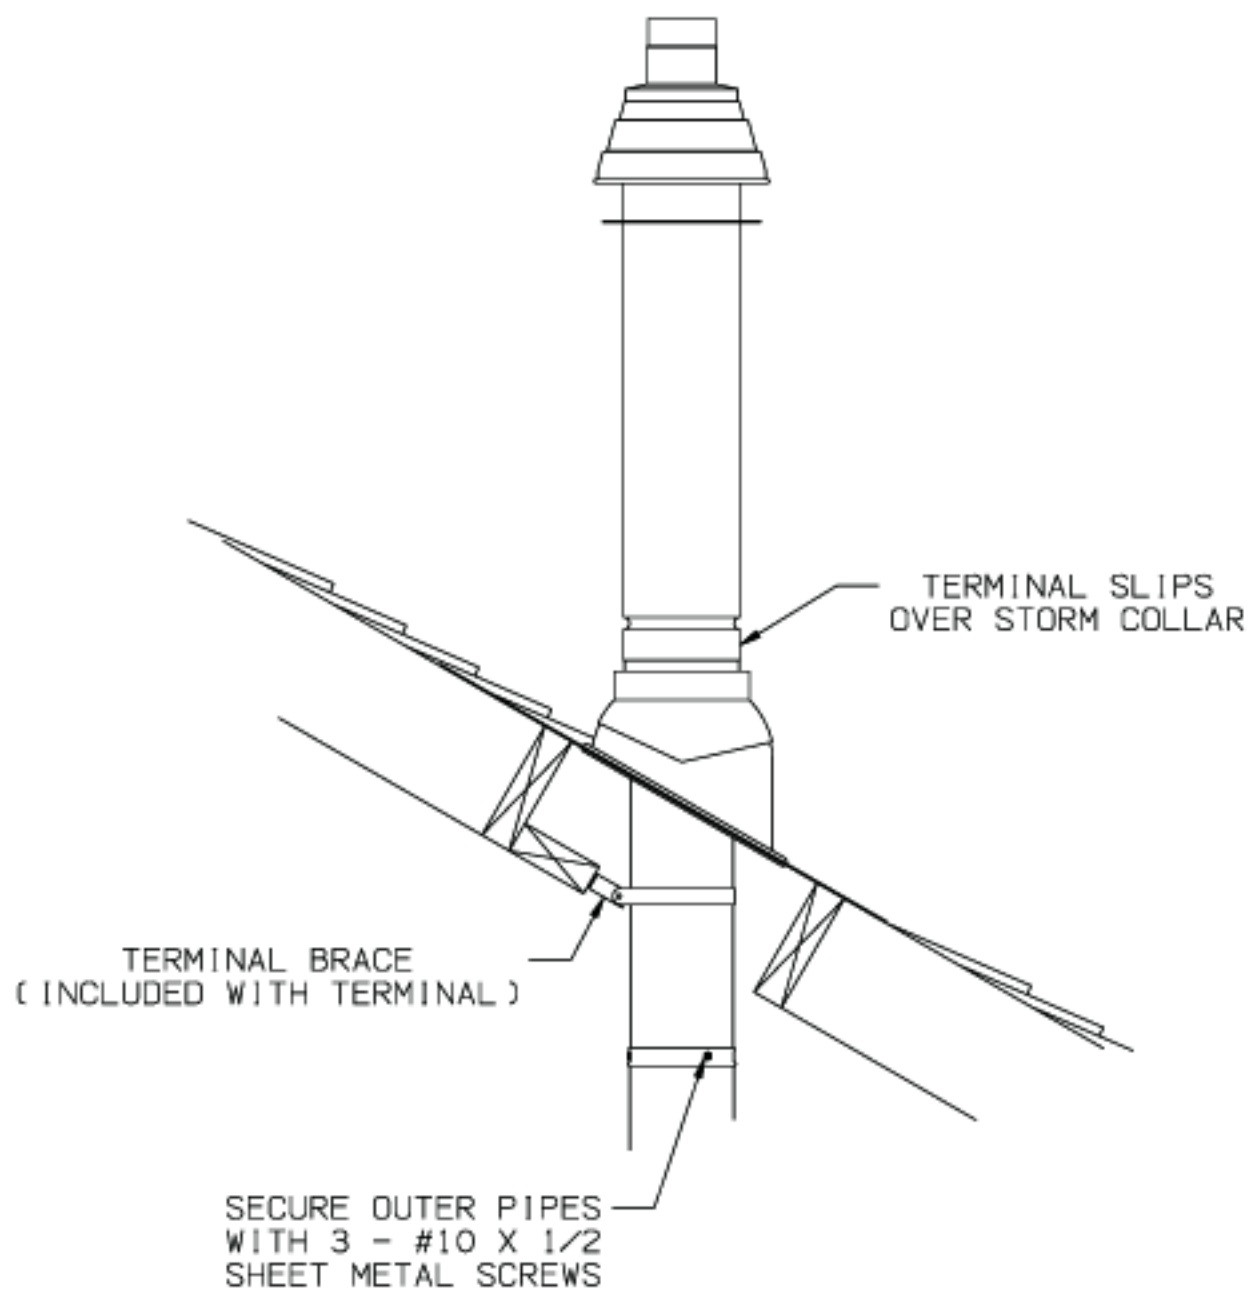

FIGURE 6.21c: COMPLETING VERTICAL TERMINAL INSTALLATION
- Secure the terminal section to the inside of the roof structure using the mounting bracket provided with the terminal (Figure 6.21c).